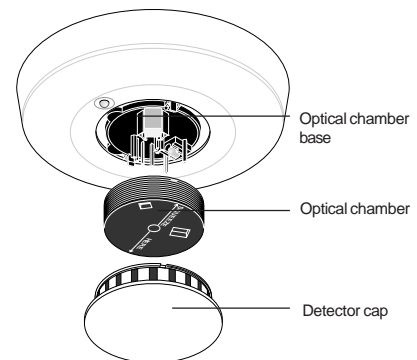

Figure 9. Removing the optical chamber
3. Press in on the sides of the optical chamber and pull it up and away from the detector and discard. See Figure 9.